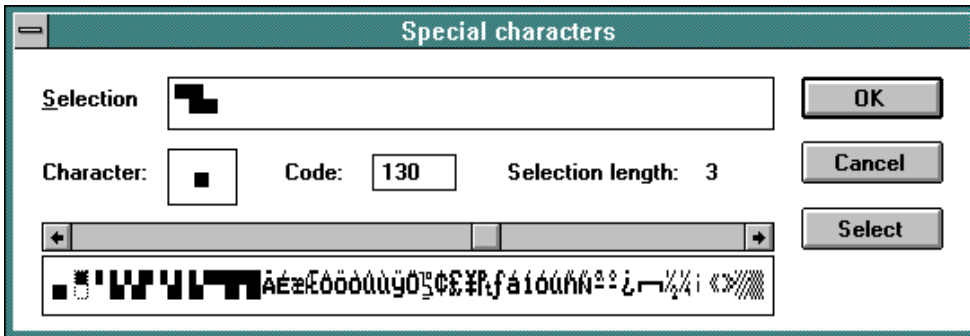

Figure 3-4
- Special characters may be added to the message by clicking on the *Spec chars* button. This will bring up a dialog box (shown below in Figure 3-4) in which the user can select the character(s) to be used by double clicking on them or by single clicking on them and pressing *Select*. After confirming the operation, the characters will appear in the last position the cursor was in before entering the special characters dialog box.